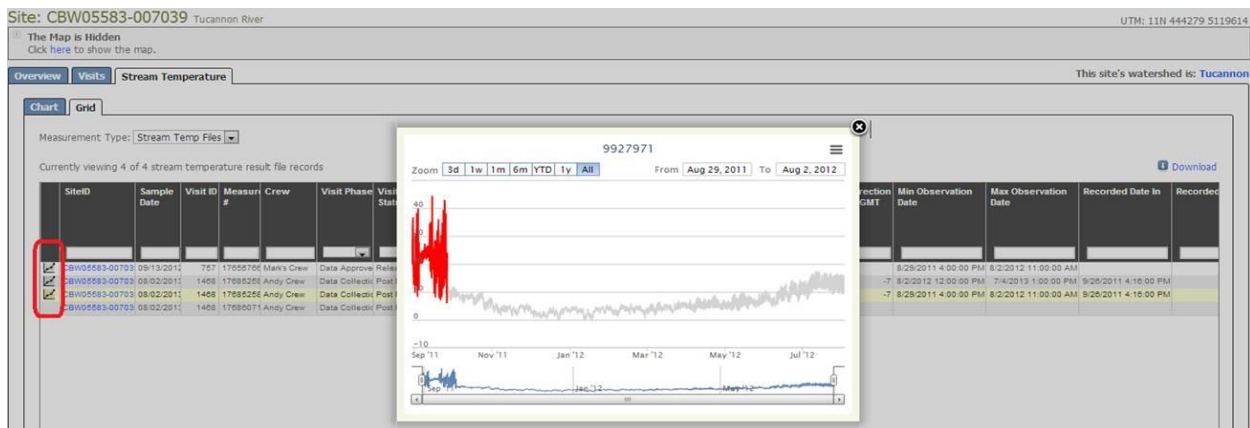

Figure 14. By clicking the graph icon in the far-left column (circled in red), a plot opens that displays the observations that are being trimmed in red.
- c. All values that are outside of the deployment period for a file will be plotted in red (See Part 4, View Records Being Trimmed; Figure 14).
5. From the left-most column in the table (circled in red in Figure 14), click the graph icon.
6. All values that are outside of the deployment period for a file will be plotted in red (Figure 14).